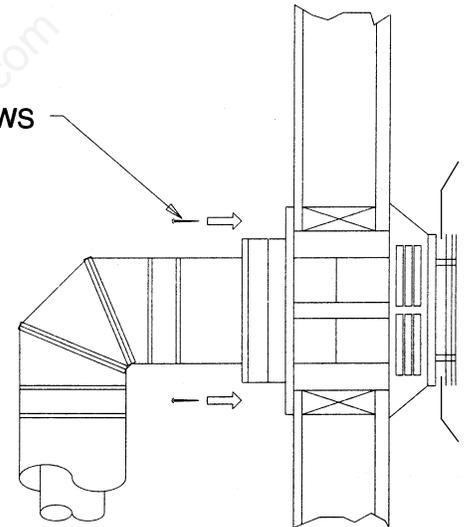

FIG. 10
- Step 7.** Slide the decorative wall thimble up to the wall surface and attach with screws provided. (Figure 10). Apply decorative brass or chrome trim if desired.